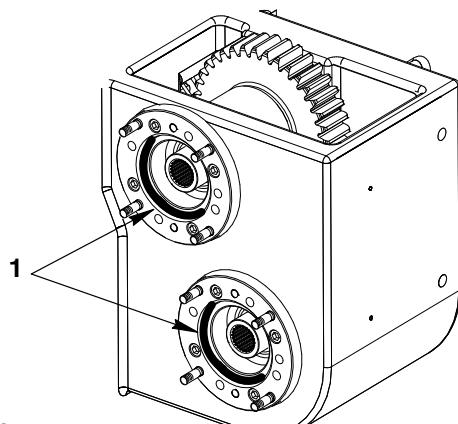

Fig. 10
- 1) Put a new O-ring (1, Fig. 10) in the pump support.
- 2) Apply a small quantity of oil to the the O-ring (1).